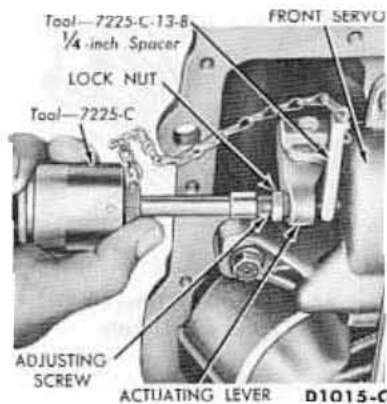

Fig. 44—Typical Front Band Adjustment—MX-FX
4. Pull back on the actuating lever, then insert the Gauge Block, Tool 7225-C13-B, of front band adjusting Tool 7225-C, (Fig. 44) between the servo piston stem and adjusting screw.